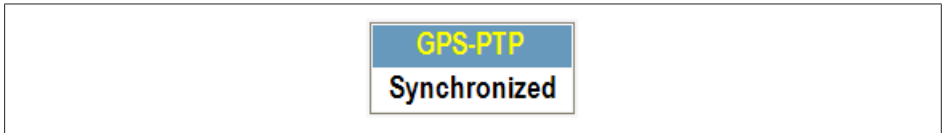

Fig. 15.19 GPS-PTP status - Synchronized
*As all mainframes are expected to be on PTP, the status should show PTP, and should have the default colors blue and white (see Fig. 15.19).*